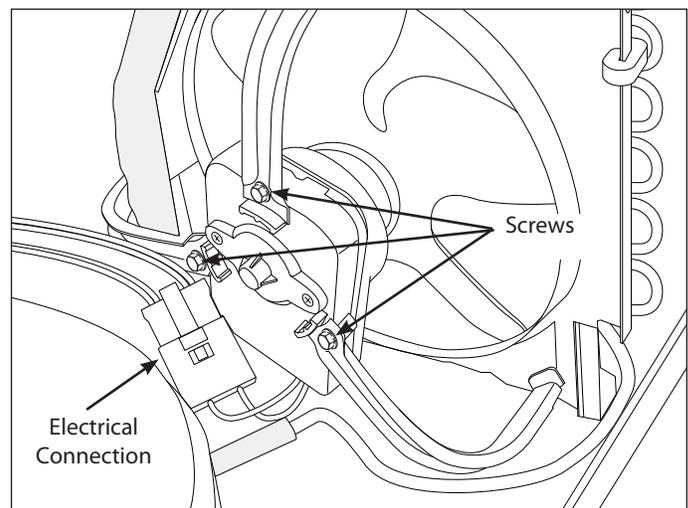

Figure 6-102.
4. Extract the three bolts securing the fan assembly to the condenser mounting brackets. (See Figure 6-102)